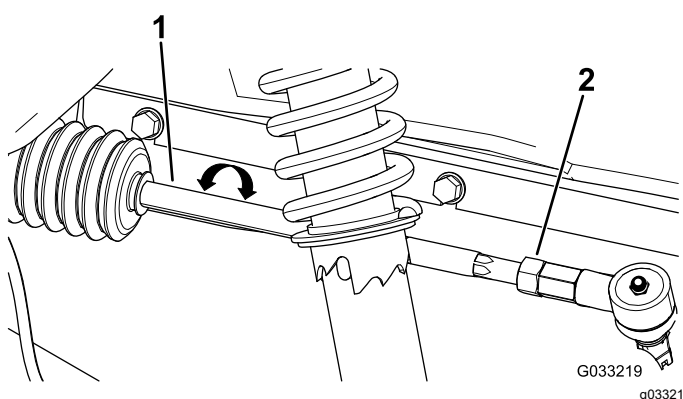

**Figure 52**
- Measure the distance between both of the front tires at the axle height at both the front and rear of the front tires (Figure 52).